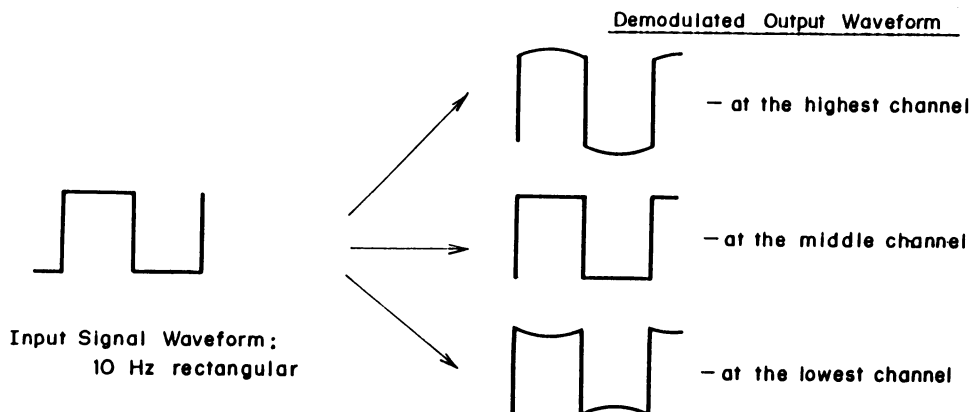

Figure 4 - Typical Rectangular Waveform of Demodulated Output
3. Change the signal to a 10 Hz rectangular waveform signal. Then, the demodulated output from the modulation analyzer should look like Figure 4. If the level adjustments under steps 1 and 2 are out of balance, the rectangular waveform will be distorted (refer to Figure 4).